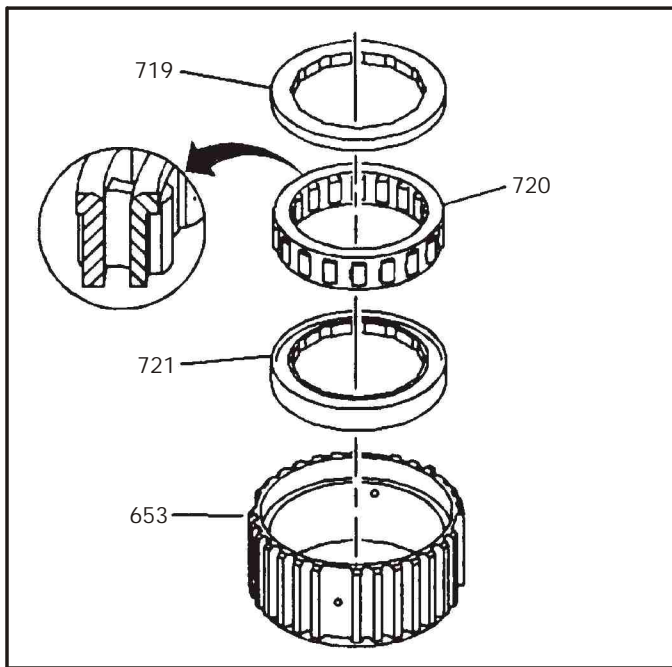

Figure 98
6. Place the 3rd clutch sprag outer race on a flat work surface with the machined step facing up, as shown in Figure 98.
7. Insert the center bearing (721) for the input and 3rd clutch into the 3rd clutch sprag outer race, as shown in Figure 98.
8. Insert the 3rd clutch sprag assembly (720) into the outer race, as shown in Figure 98.
Note: Position the 3rd sprag so that the lip is facing **up**, as shown in Figure 98.